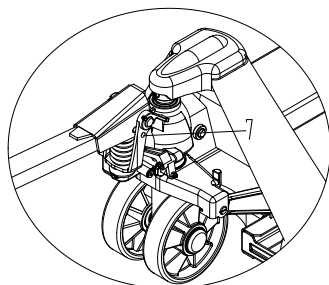

Fig.3
3.6 See fig 3, turn the hand grip 3 to the level position, pull out pin 7 and save pin 7 with care for next use.